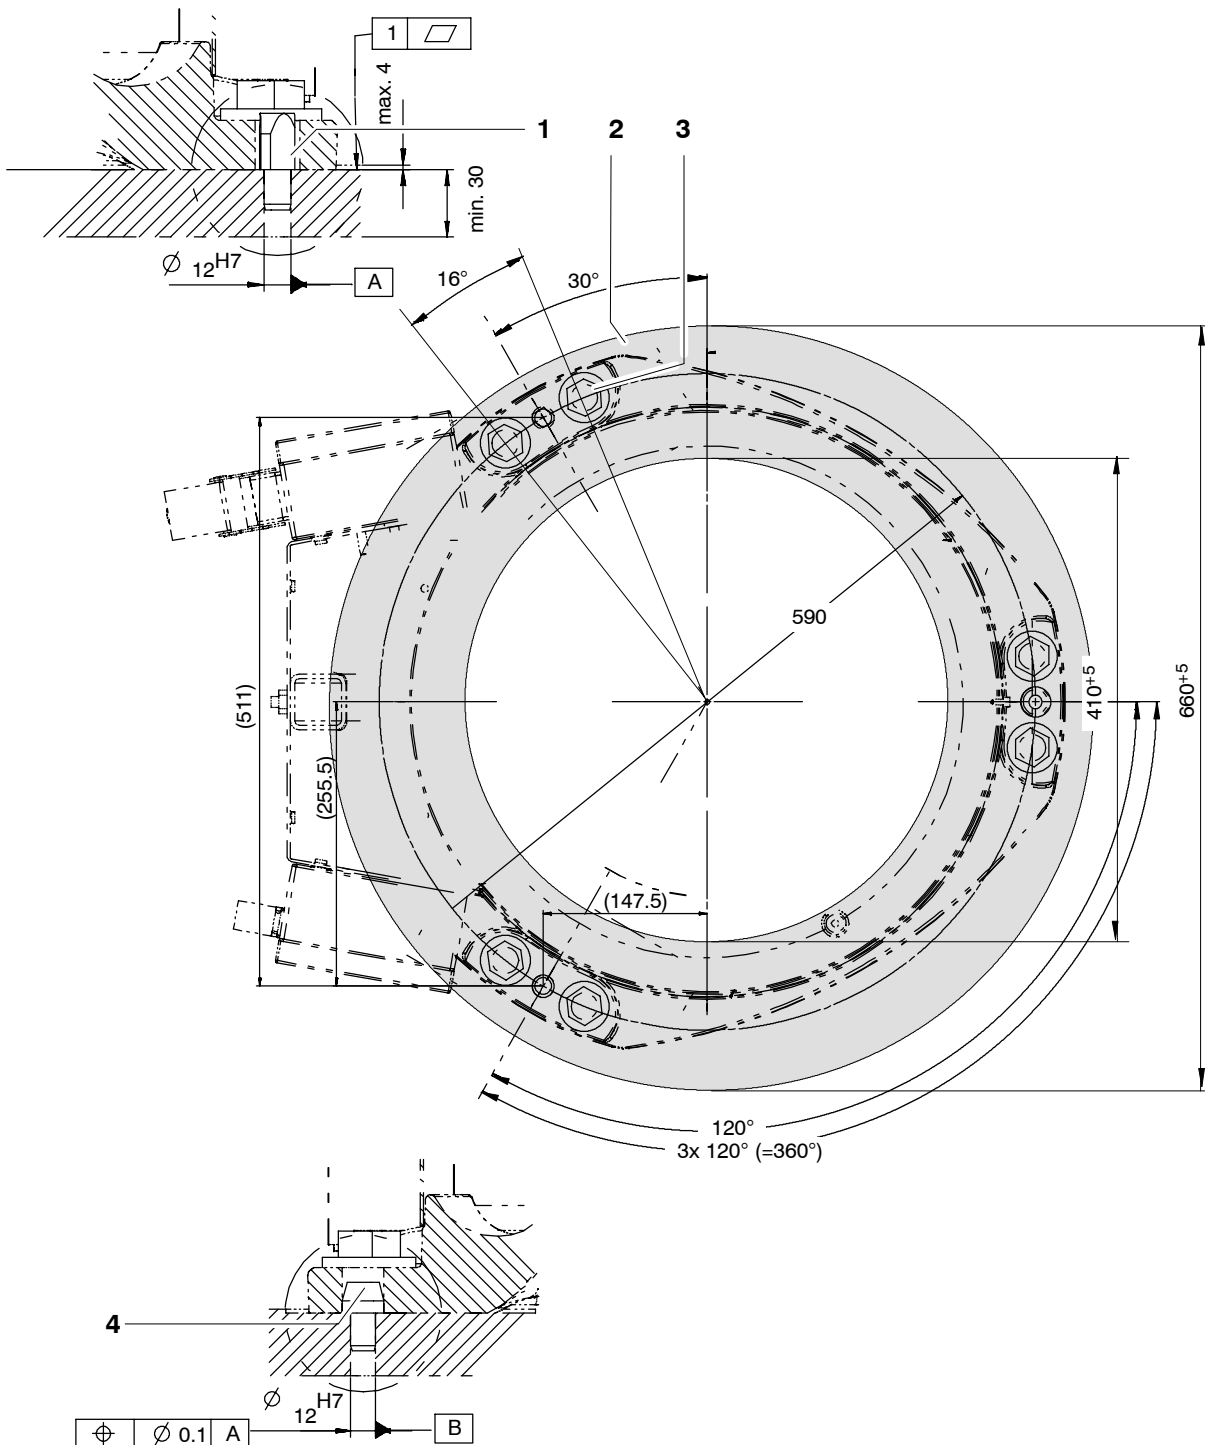

Fig. 49 Fastening the manipulator, variant 2
- (1) Prepare the mounting surfaces (Fig. 49/2) on the steel structure in accordance with Fig. 49.